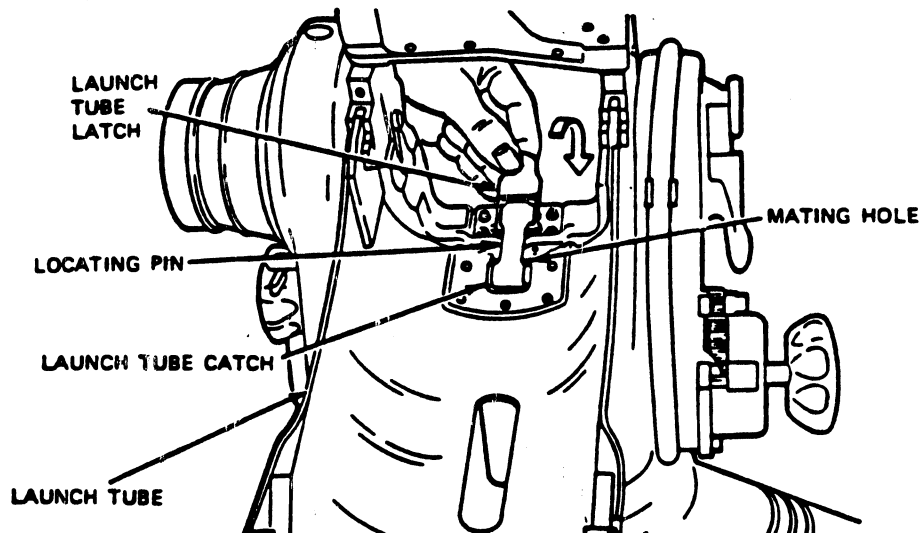

Fig 2-9. Launch tube latch being locked.
Step 3. Line up the locating pin with the mating hole in the launch tube (fig 2-9).
Step 4. Place the launch tube latch in the launch tube catch and press down on the launch tube latch until it locks (fig 2-9).